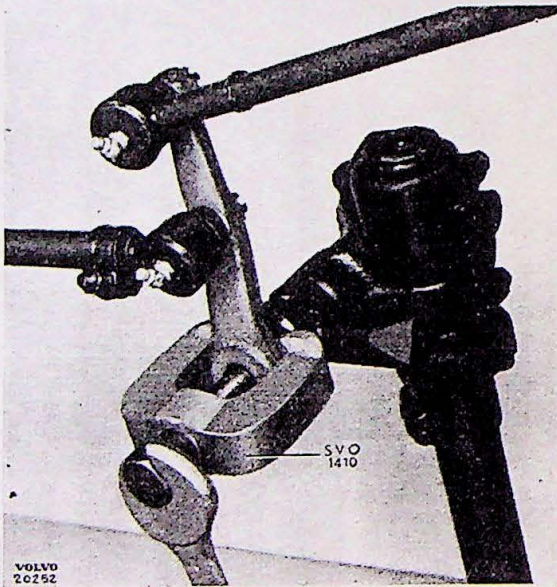

Fig. 5.
5. Pull off the Pitman arm. Use tool SVO 1410 (see fig. 5).